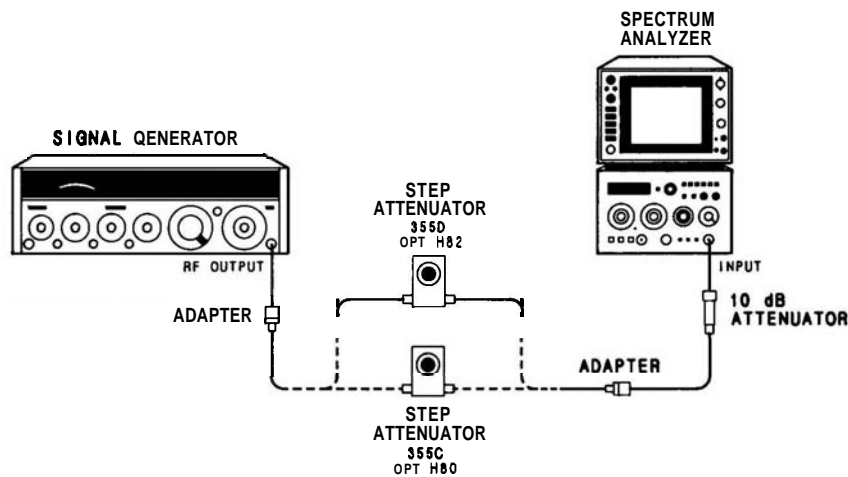

FIGURE 4-18. REFERENCE LEVEL ACCURACY TEST SETUP
2. Connect equipment as shown in Figure 4-18 using 10-dB step attenuator. Set step attenuator to 0 dB and adjust spectrum analyzer TUNING control to center 30 MHz signal on CRT. Set FREQ SPAN/DIV control to 10 kHz and RESOLUTION BW control to 3 kHz, adjusting TUNING control as necessary to keep signal centered on CRT.